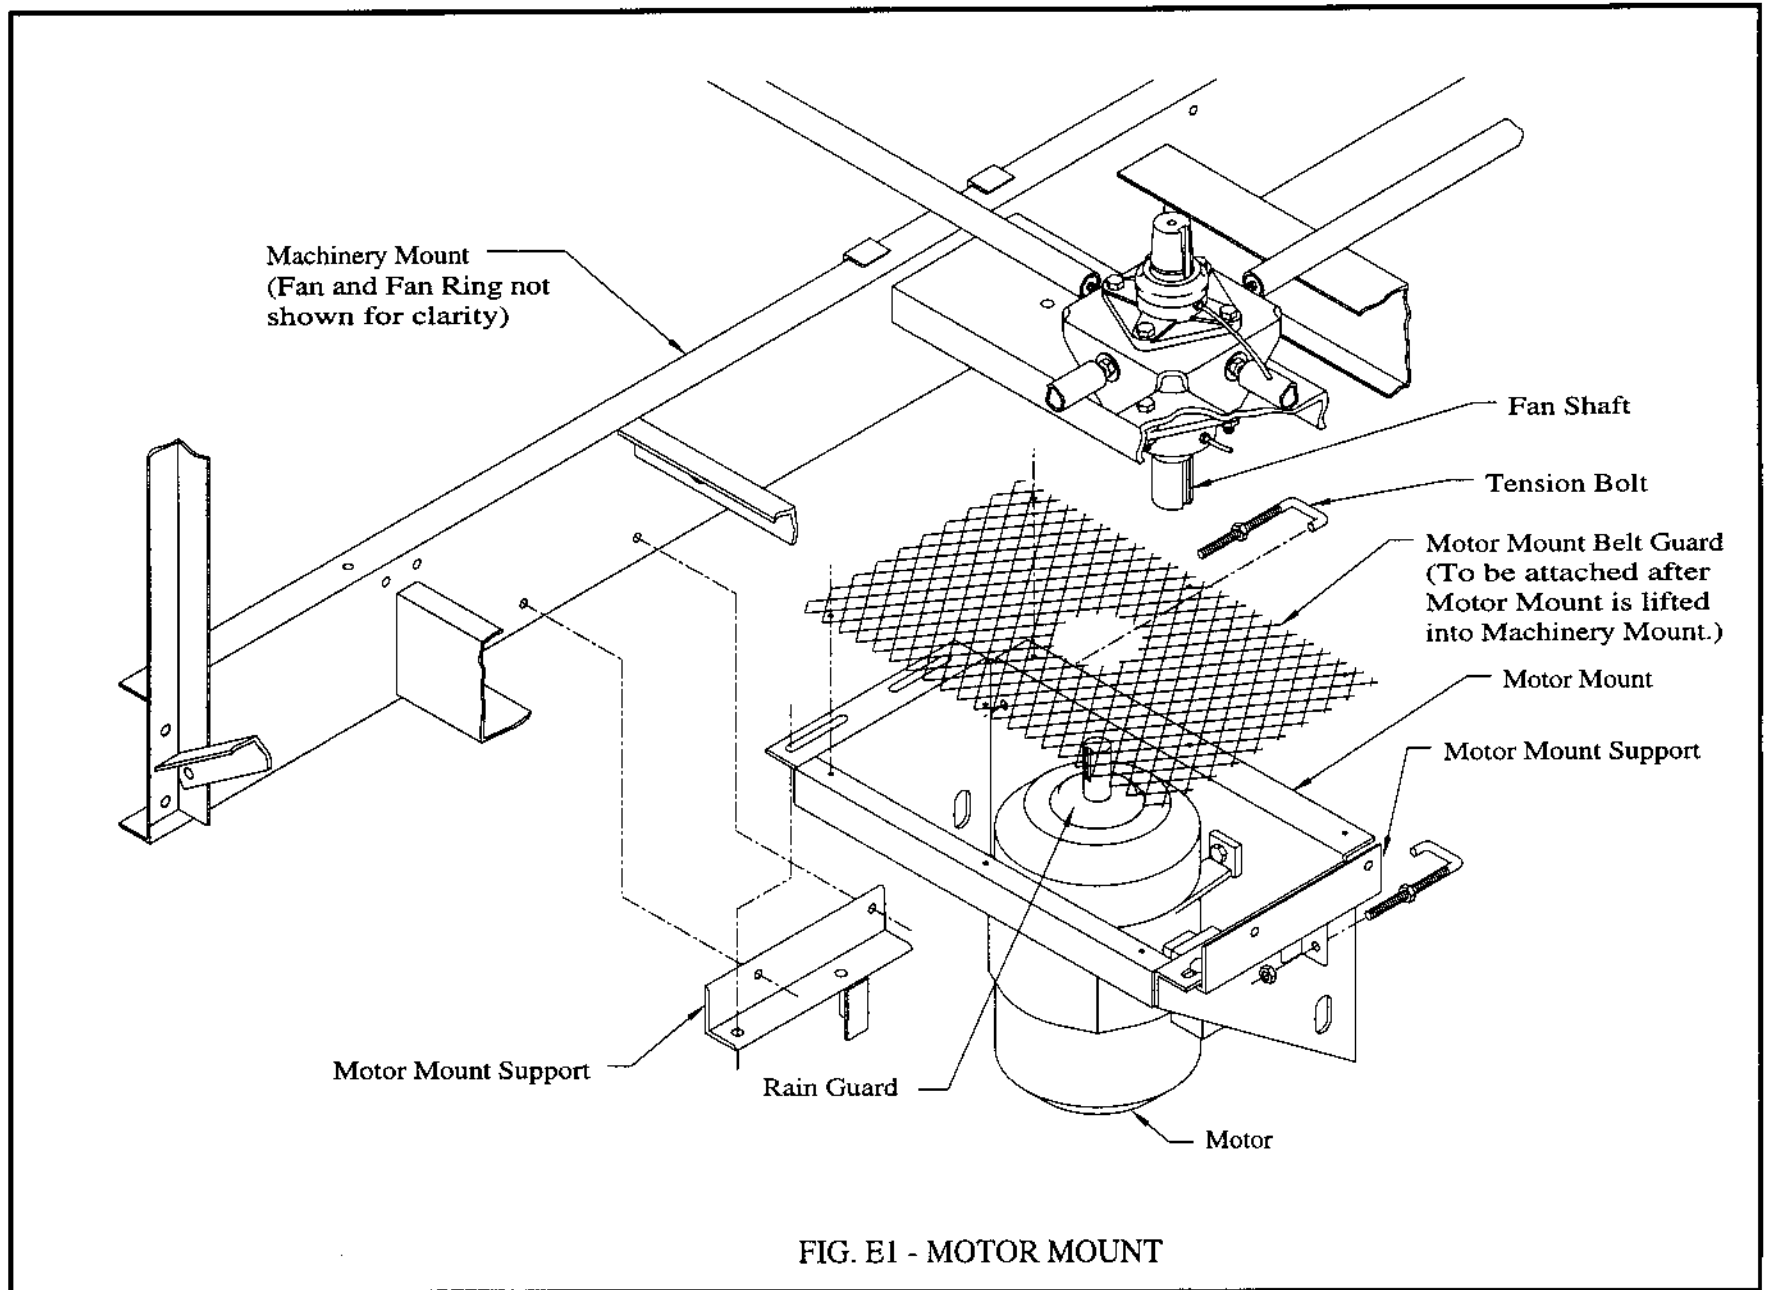

FIG. E1 - MOTOR MOUNT
1. Attach motor to motor mount. Attach motor mount assembly to machinery mount. Attach motor mount belt guard to motor mount. See Fig. E1 and "MOTOR INSTALLATION AND REMOVAL PROCEDURE".